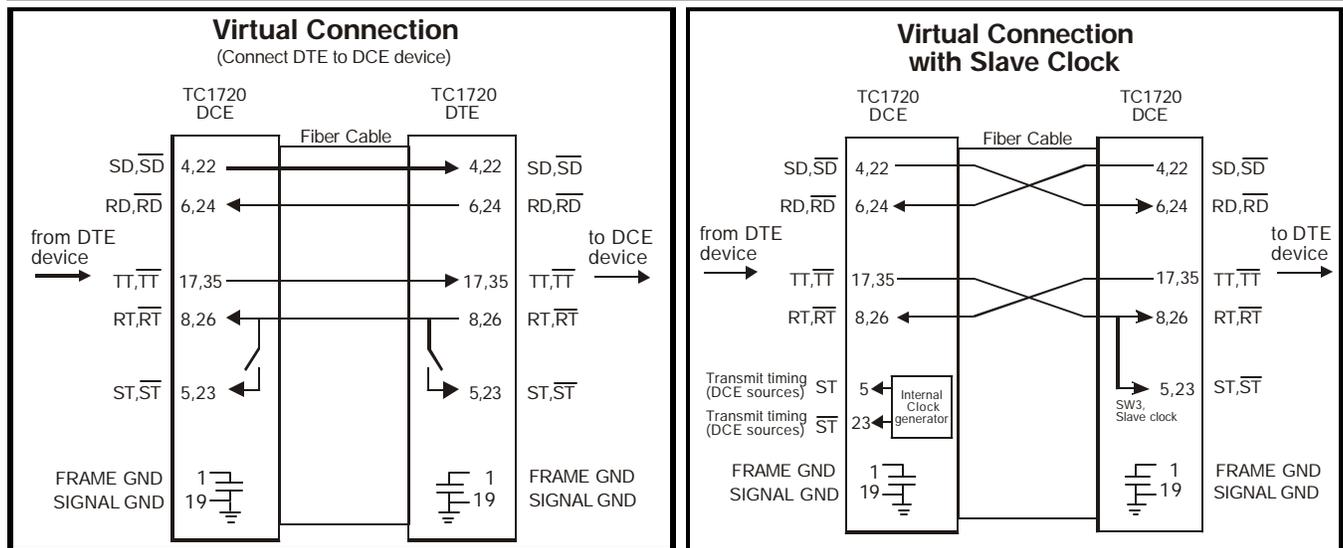

Figure 1. Connecting a DTE to DCE Device
1. Make sure the electrical signal connections match the pin assignments for the device (refer to page 3 for DCE/DTE pin connections). Verify signal connections by checking the status LEDs on the front panel of the TC1720. Verify that the pin signal connections match the appropriate LED responses (see Figures 1, 2 & 3).